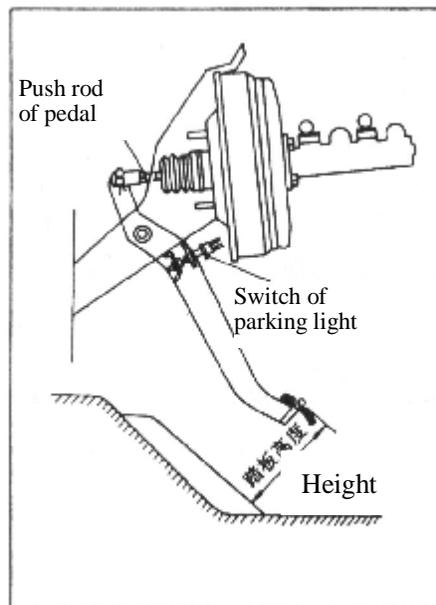

Figure 10-8-5 Check Brake Pedal Height
① Brake pedal height. The height from the floor should be 155~165mm. Adjust the height as indicated in figure 10-8-5.